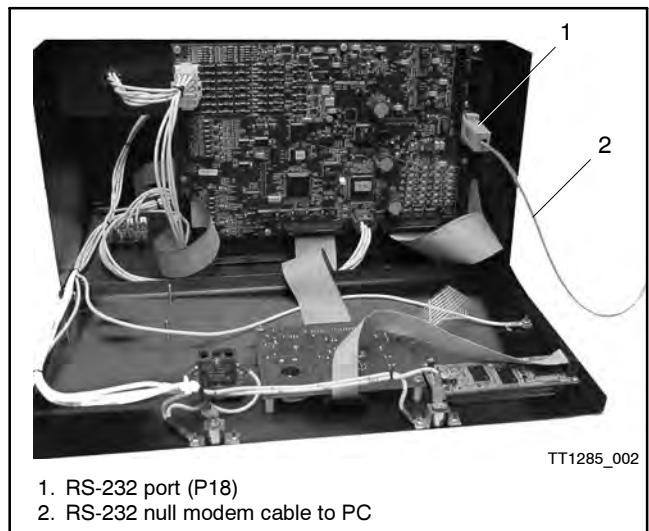

Figure 3 550 Controller RS-232 Connection
7. Connect one end of the null modem cable to the controller at the RS-232 connector P18. See Figure 3. Tighten the thumb screws on the connector to hold it securely in place.